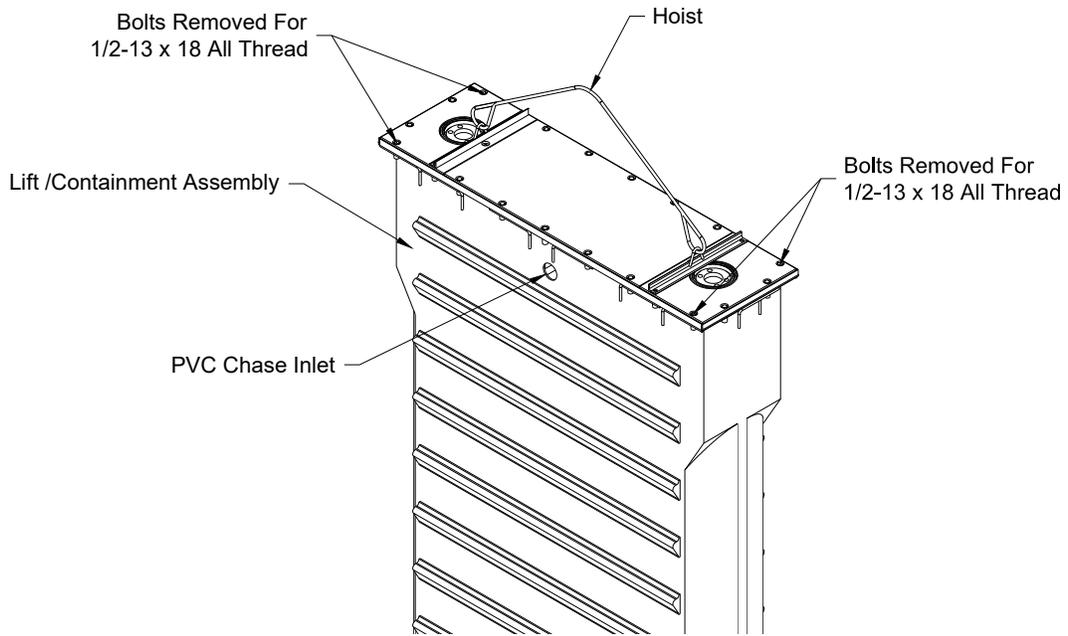

Fig. 3
1. For best balance of lift / containment assembly while lowering into excavation, sling using the shipping straps provided. See **Fig. 3**. DO NOT remove or loosen any of the bearing assembly bolts at this time.
3. Remove the outer two bolts from each end of the center cover plate and replace with 1/2-13 x 18 threaded rods. Attach two 6 x 6 timbers using 1/2-13 nuts and washers, to support the lift / containment assembly on the existing floor or forms. Remove the shipping straps and replace the bolts. Torque the bolts to 60 ft-lbs. Bend concrete tie anchors out 90 degrees and down 45 degrees. Refer to **Figures 3** and **4**.